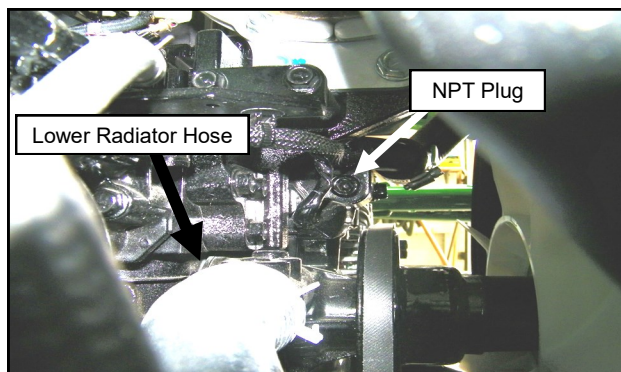

Fig. 20.4a (Remove NPT Plug from Engine)
- 20.4 Remove the NPT plug from the front of the engine and install the block adapter with Teflon tape. See Figures 20.4a and b.